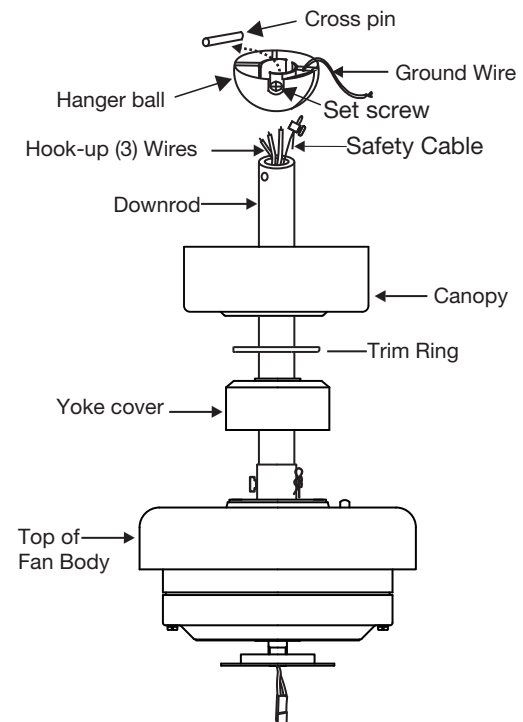

Fig. 3
- 1 Remove the existing wall plate and old switch from the wall outlet box. (Fig. 3)